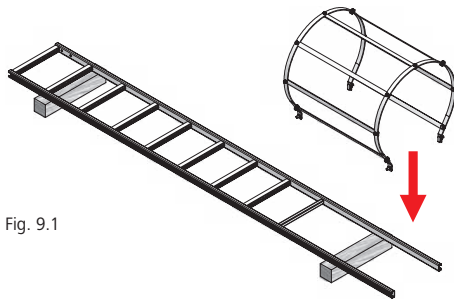

Fig. 9.1
1. Screw the safety cage to the top end of the ladder (Fig. 9.1).